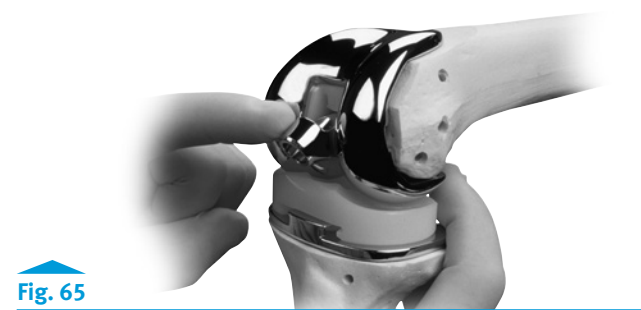

Fig. 65
- While distracting the joint, rotate the Hinge Post posteriorly until it drops into the hole in the middle of the Articular Surface (**Fig. 65**).